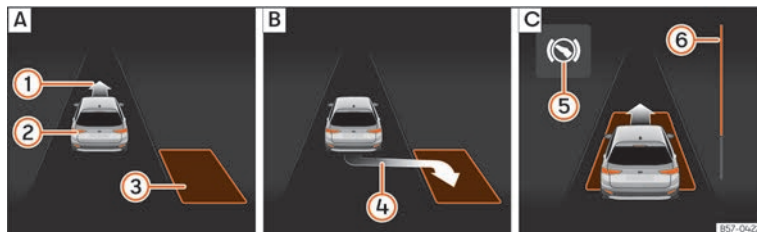
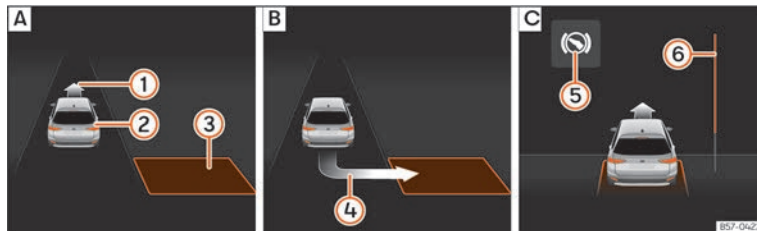

Fig. 164 On the instrument cluster display: parallel parking. **A**: Finding a parking space **B**: Parking position. **C**: Manoeuvring.
Fig. 165 On the instrument cluster display: angle parking. **A**: Finding a parking space **B**: Parking position. **C**: Manoeuvring.
- Look at the instrument cluster screen to see if the space has been detected as “appropriate” and if the correct position for parking has been reached >>> Fig. 164 **B** or >>> Fig. 165 **B**. The space is considered “appropriate” if the instrument cluster display shows the parking indication ④.
- Reverse until the continuous ParkPilot signal sounds; **OR:** reverse until the indication to move forward appears on the instrument panel display >>> Fig. 164 ⑥ or >>> Fig. 165 ⑥; **OR:** reverse until the **Park Assist finished** message appears on the instrument cluster display. The progress bar ⑥ indicates the distance to cover.
- Press the brake pedal until the parking assist system completes the steering wheel turns; **OR:** until the symbol ⑤ goes out on the instrument panel screen.
- Move forward until the continuous ParkPilot signal sounds; **OR:** move forward until the reverse indication appears on the instrument panel display. The Park Assist system steers the vehicle forward and back until it centres it in the space >>> Fig. 164 ⑥ or >>> Fig. 165 ⑥.
The progress bar >>> Fig. 164 ⑥ and >>> Fig. 165 ⑥ on the instrument cluster display shows the relative distance to be covered as a symbol. The greater the distance, the fuller the progress